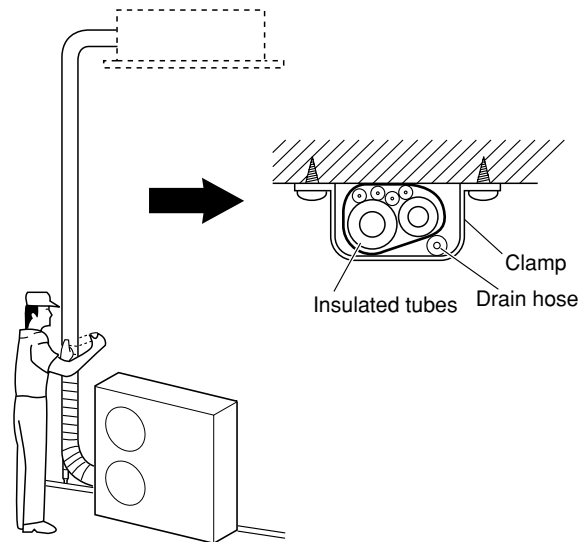

Fig. 7-10
- (1) At this time, the refrigerant tubes (and electrical wiring if local codes permit) should be taped together with armoring tape in 1 bundle. To prevent the condensation from overflowing the drain pan, keep the drain hose separate from the refrigerant tubing.
- (2) Wrap the armoring tape from the bottom of the outdoor unit to the top of the tubing where it enters the wall. As you wrap the tubing, overlap half of each previous tape turn.
- (3) Clamp the tubing bundle to the wall, using 1 clamp approx. each meter. (Fig. 7-10)